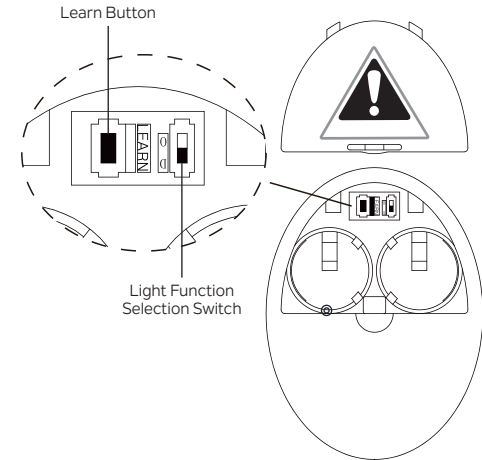

Fig. 26
LIGHT FUNCTION SELECTION SWITCH (Fig. 26)
PAIRING THE TRANSMITTER TO THE FAN (Fig. 26)
Step 2. After installing transmitter batteries, turn on AC power to the fan at the circuit breaker or fuse box, and within 30 seconds, press and hold the LEARN button on the back of the transmitter (**Fig. 26**) for 3 seconds. The fan will turn on at medium speed and the light kit (if installed) will turn on. This confirms that the pairing process is complete.